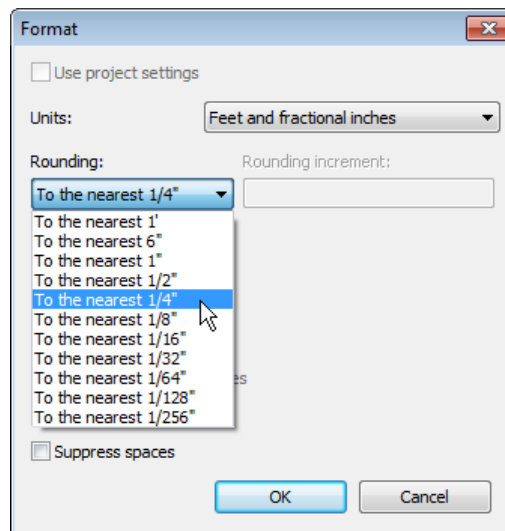

Figure 2-31 The **Format** dialog box
3. Click on the **Rounding** drop-down list and select the desired option, as shown in Figure 2-31.